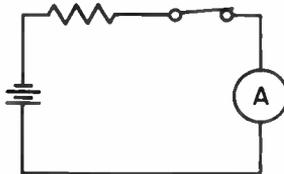

Fig. 16
1. In the circuit in Fig. 16, the ammeter reads 8 A. A new battery having three times the voltage of the original one is connected into the circuit. The new value of current, as indicated by the ammeter, will be _____ amperes. This shows that when you triple the voltage, you _____ the current, provided the circuit _____ remains the same.